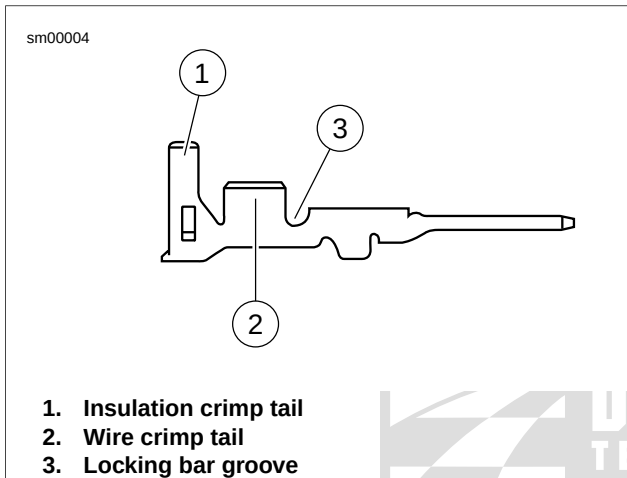

Figure A-6. AMP Multilock Connector: Pin Terminal
2. See Figure A-6 and Figure A-7. Select the pin/socket terminals from the parts catalog and identify the insulation crimp tails (1) and the wire crimp tails (2) and the groove for the crimp tool locking bar (3).
See Figure A-6 and Figure A-7. Hold the terminal with the insulation crimp tail (1) facing up. The tool will hold the terminal by the locking bar groove (3) and crimp the wire crimp tail (2) around the bare wire of the stripped lead and the insulation crimp tail around the insulation.